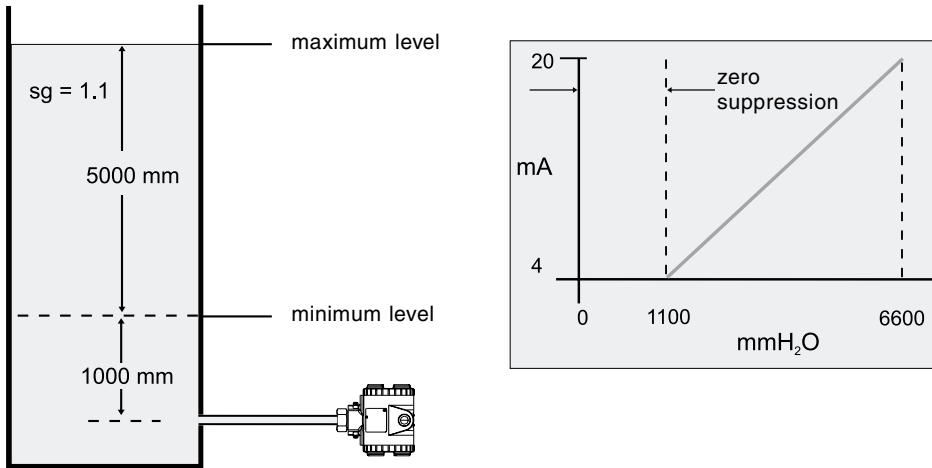

Figure 3-4 Open tank level measurement
3.8 Liquid Level Measurement (Figure 3-4)